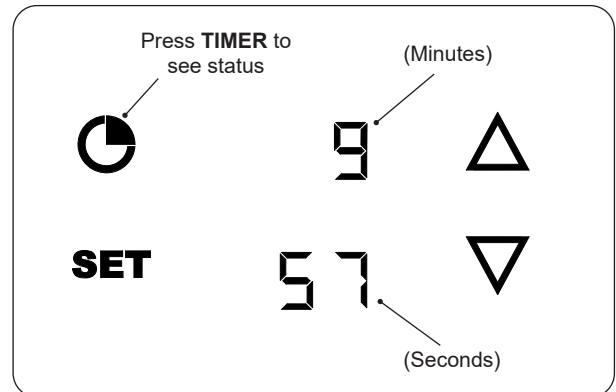

Fig. 33-2 Check timer status
- To check the timer status, press the **TIMER** button and the display will show the live countdown (for 5 seconds then, return to the default screen). See Fig. 33-2.
- The upper display indicates minutes and the lower display indicates seconds (see Fig. 33-2).